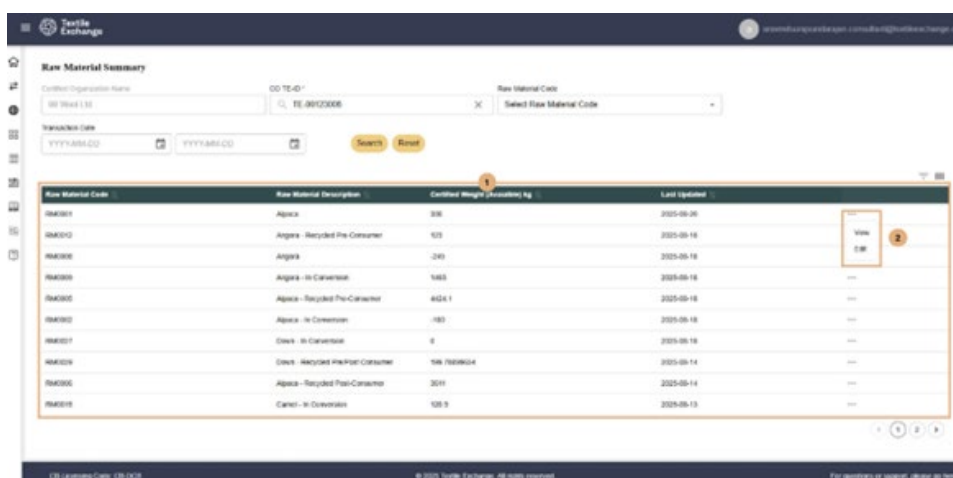

Figure 5: Inventory by raw material summary results.
3. Executed searches display a table of results that includes the raw material code and description, certified weight (e.g., declared zero balance, negative balance, or positive balance), and last updated date [1]. Refer to Figure 5.
4. Click on the three dots  [2] on the right-hand side of each row to either view (navigates to the material ledger of the raw material) or edit (navigates to the inventory adjustments page of the raw material) inventory balances. Refer to Figure 5.